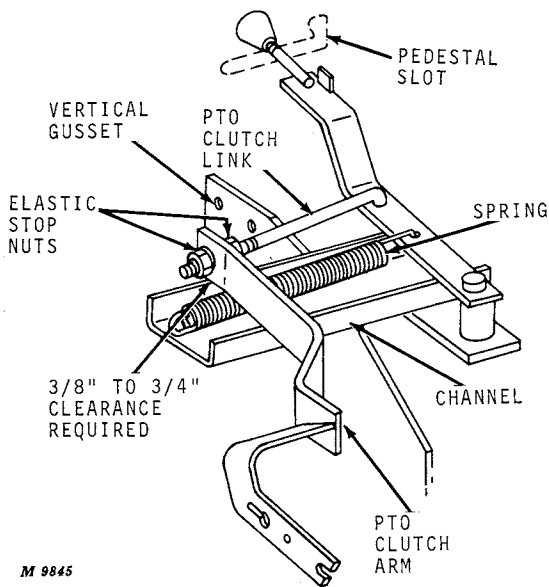

Fig. 6-Clutch Linkage
The inner elastic stop nut on the PTO clutch link, Figure 6, should be screwed on the rod so that 1-5/16 inches of thread remain between the nut and the right-hand end of link. The outer elastic stop nut should be screwed on the link until 5/8 inch of thread remains.
**NOTE:** On tractors below Serial No. 130,000, it may be necessary to lower the fulcrum until there is 3/8 to 3/4-inch clearance between the rear end of the clutch arm and the edge of the channel reinforcement, Figure 6. If fulcrum strikes tractor frame before clearance is achieved, notch the frame and slot the attaching holes so the fulcrum can be lowered further. Lower fulcrum until the 3/8 to 3/4-inch measurement is obtained.